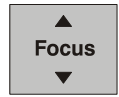

Figure 2.40
- Hold the key down to see the effect – arrows in the display indicate the direction of the focus (**Figure 2.40**).